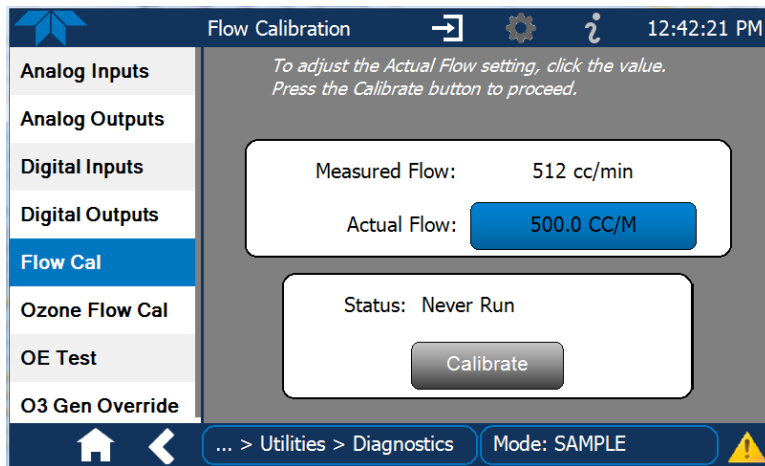

Figure 5-15. Flow Calibration Menu
1. In the Utilities>Diagnostics>Flow Cal or Ozone Flow Cal menu (Figure 5-15), edit the Actual Flow value by inputting the reading from the external flow meter obtained in the corresponding check of the flow to be calibrated.